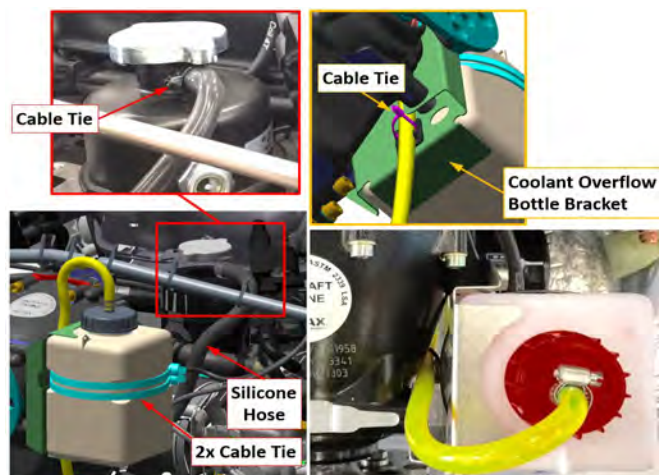

FIGURE 16-42
6. Install the coolant overflow bottle on the bracket using two TY29MX cable ties as shown in Figure 16-42. Orient the bottle with black silicone hose facing forward (away from propeller flange).
7. If installing new hoses, route and secure them as follows (see Figure 16-42):